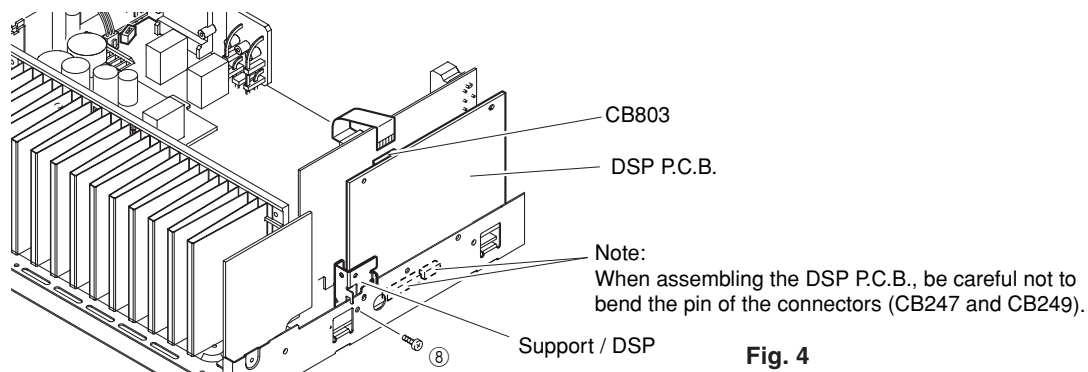

Fig. 4
- Remove 1 screw (⑧). (Fig. 4)
- Remove CB803. (Fig. 4)
- Remove the DSP P.C.B. with the Support/DSP. (Fig. 4)